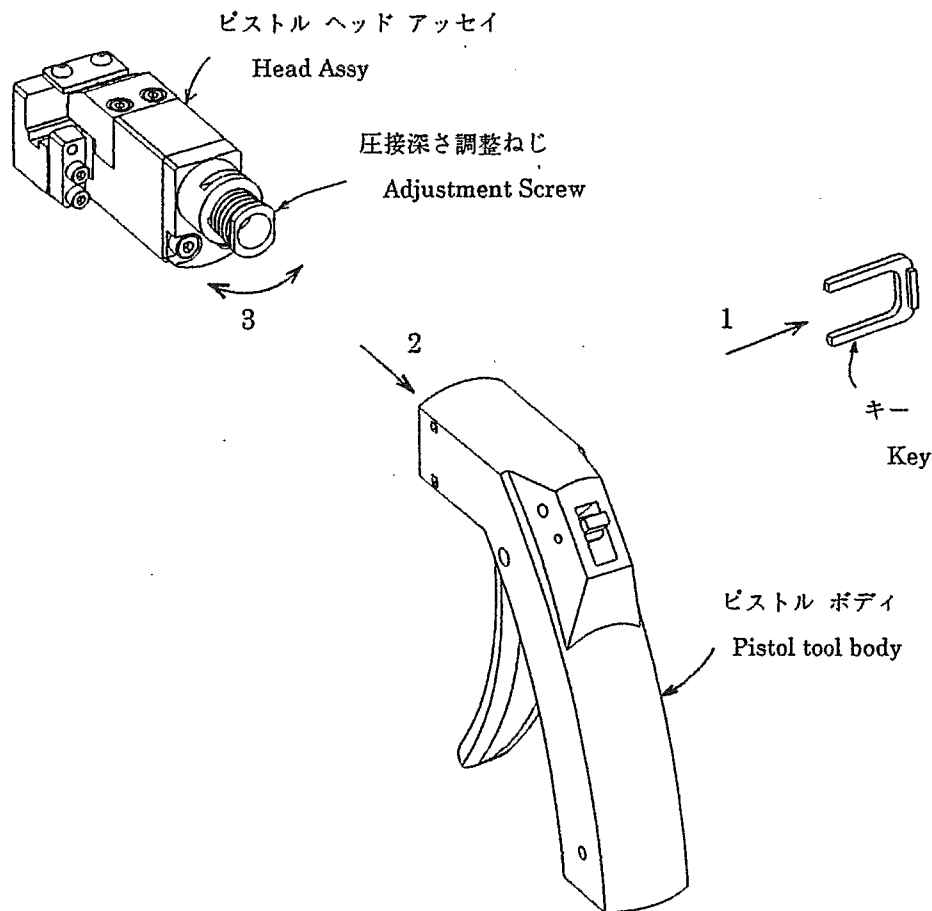

Fig. 6
6. 圧接深さの調整 (Fig.6 参照)
6. Adjustment of Wire Insertion Depth (See Fig.6)